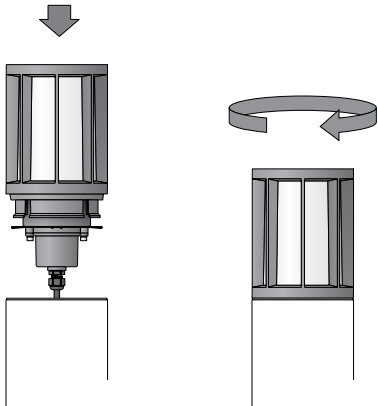

Figure 1
- 3. Insert bollard head into bollard tube and turn clockwise as far as it will go (Figure 1).